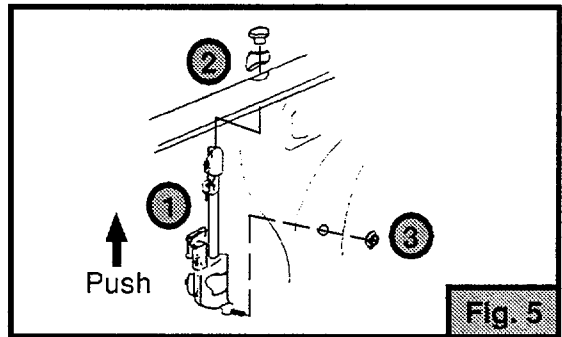

Fig. 5
5. Reinstall the antenna assembly. Be sure to install the external antenna nut (escutcheon) first. Then install the nut which holds the assembly to the inner bracket (Fig. 5).